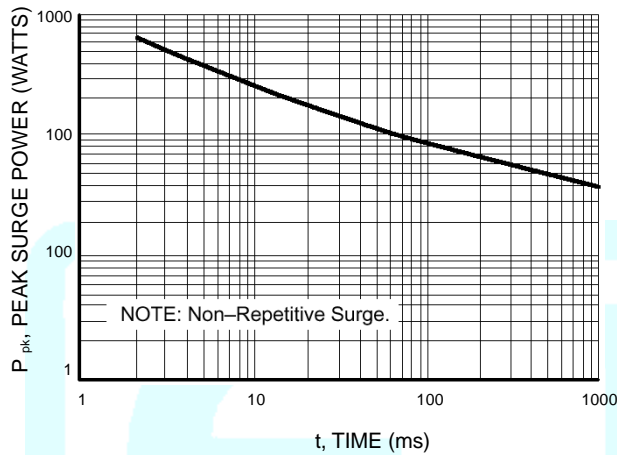
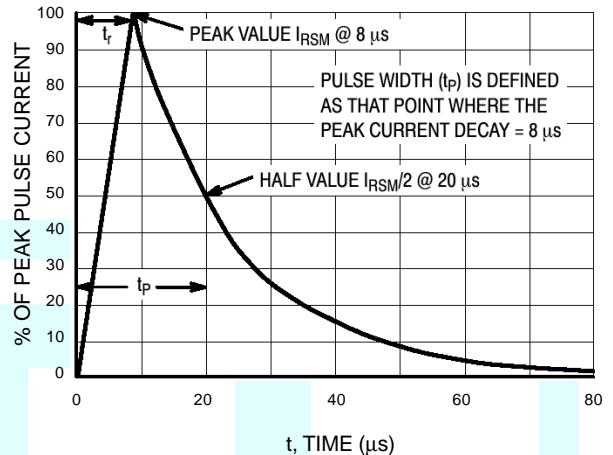

Figure 1. Pulse Width
Figure 2. 8 × 20 μs Pulse Waveform
1. Non-repetitive current per Figure 1. Derate per Figure 2.